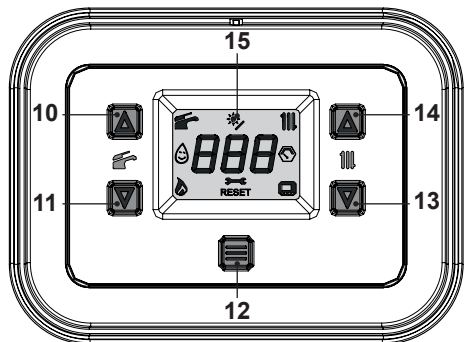

Fig. 2.5
- Press the key 12 for 1 second until both  and  symbols appear on the display Fig. 2.5.
The output temperature of C.H. water can be adjusted by pressing keys 13 (reduce) and 14 (increase) (Fig. 2.5) from a minimum of about 25°C to a maximum of about 80°C. Press one of the two keys once to display the "set" value. Press again to access the modification.
However, if the ambient temperature is not comfortable, the flow temperature of the heating system can be adjusted by $\pm 15^\circ\text{C}$ by pressing on keys 13 (reduce) and 14 (increase) (Fig. 2.5).